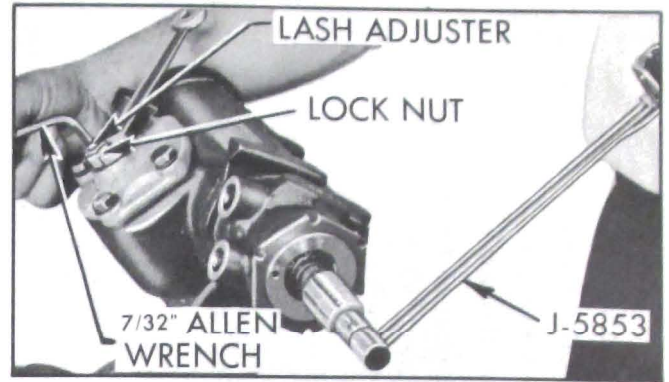

Figure 8-34—Pitman Shaft Over Center Adjustment
6. If readings are within specifications, check and adjust if necessary, pitman shaft "overcenter" adjustment. Reading on torque wrench should be 4 to 8 inch pounds higher than was obtained in Step 5. See Figure 8-34. This reading is taken when rotating stub shaft through "high-point" range with lash adjuster nut tight.